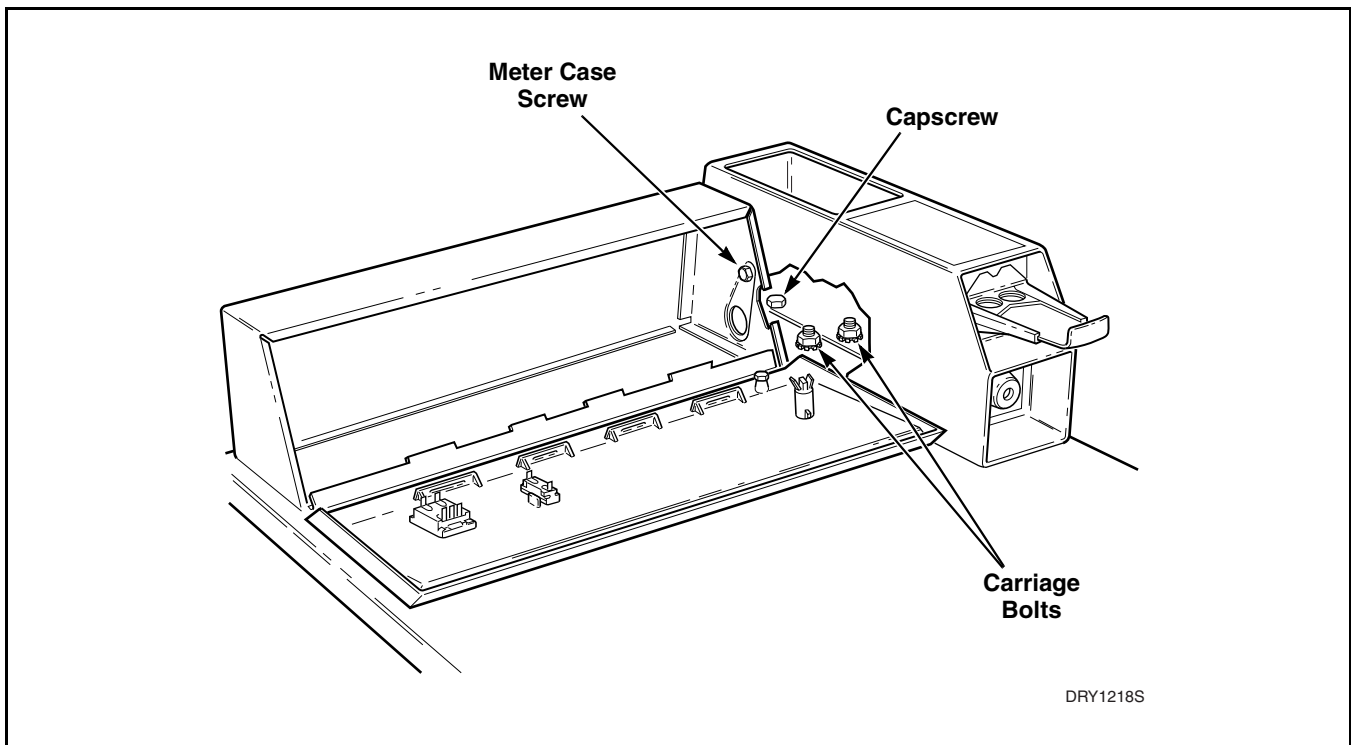

Figure 24
Refer to *Figure 24*
- c. Remove control pane. Refer to *Paragraph 14*, step b and disconnect wires from all components and ground wire in control hood. Push harness through hole in control hood. Refer to *Figure 24*.